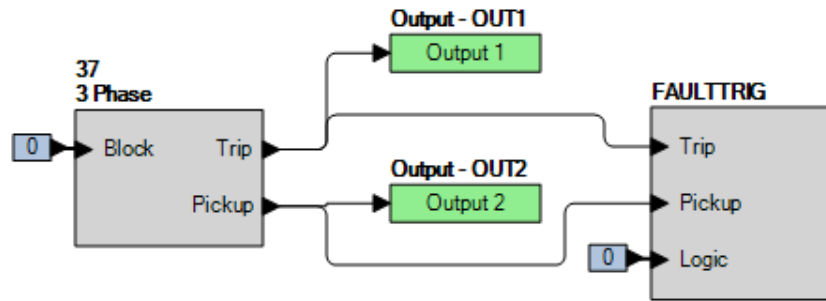

Figure 62-1. BESTlogicPlus Settings
Step 2: Use BESTCOMSP $Plus$  to configure the BESTlogic $Plus$  Programmable Logic shown in Figure 62-1.
- Step 4: Prepare to monitor the 37 function operation. Operation can be verified by monitoring OUT2 (see Figure 62-1).